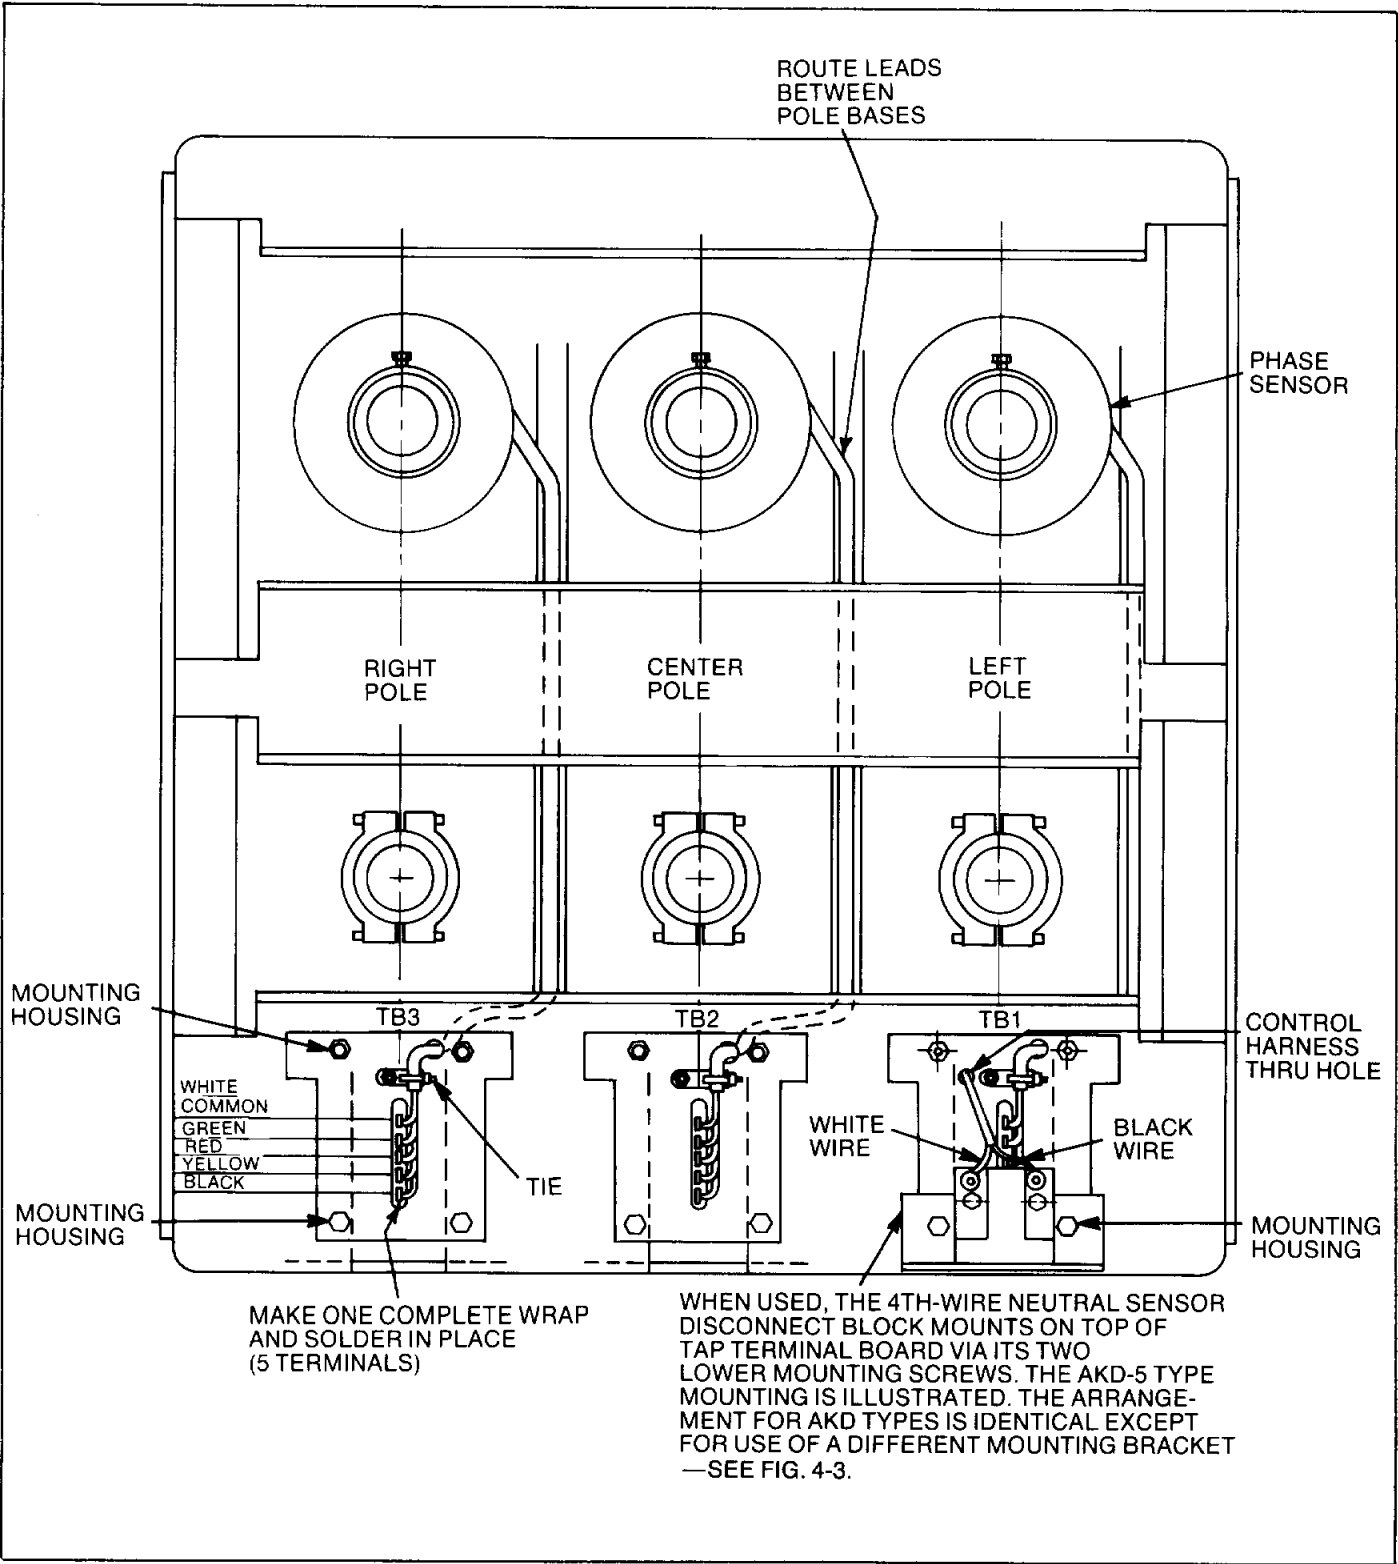

Fig. 3-8. Typical AK-75/100 backframe conversion — rear view
2. The MicroVersaTrip™ sensors mount on the upper-breaker studs. The sensors are held on the stud with the locking rings, as shown in Fig. 3-6. Leave enough of the stud exposed for the primary fingers to engage. Engage the sensor's anti-turn lugs with the notch in the locking ring. Before tightening the locking rings, position each sensor so that its leads will exist between the pole bases, as shown in Fig. 3-8.
3. Mount the three sensor terminal boards to the rear of the back frame as shown in Fig. 3-8 using the hardware provided.
4. Form each sensor's leads downward between the pole bases and thru the hole in its terminal board as shown in Fig. 3-8. Wire tie and solder to the terminals as indicated. Be sure to position wire colors as shown.
The 4th-wire disconnect for the AKR-AKR-75/100 Drawout breaker mounts to the lower-back frame as shown in Fig. 3-8.
2. If the disconnect is being added, mount the disconnect assembly as shown in Fig. 3-8.